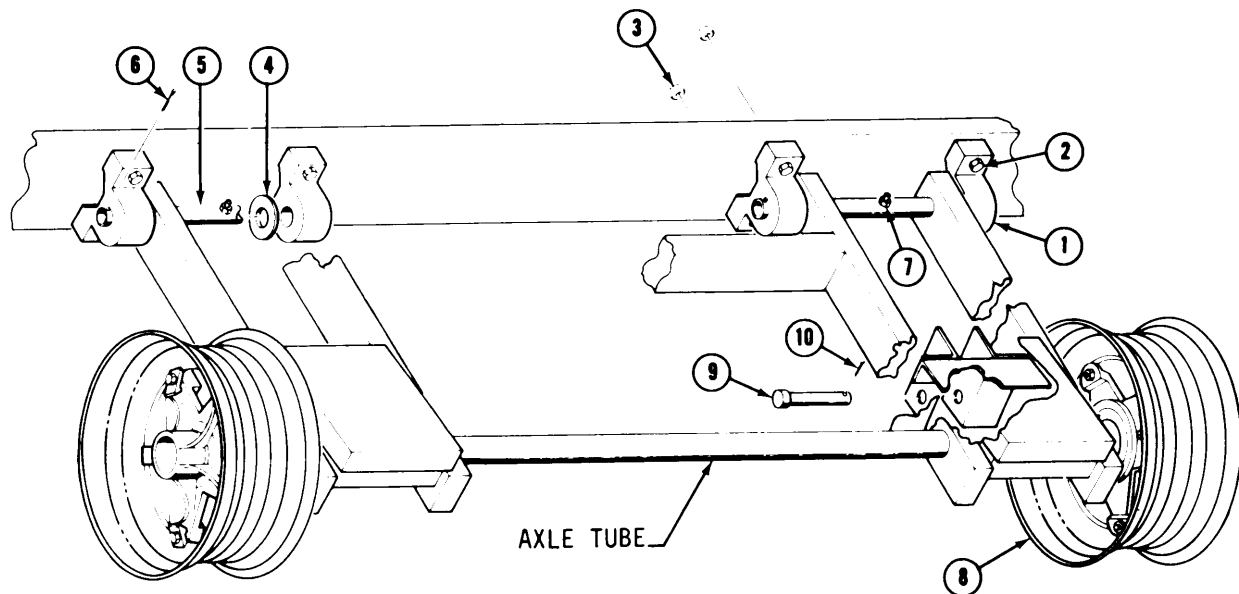

Figure 5-6. Undercarriage Assembly
#### 5.5.5 Undercarriage Assembly (Fig. 5-6)
d. Remove cotter pins (10) from lower clevis pins (9) holding hydraulic lift cylinders (Fig. 5-6).
e. Slide clevis pins (9) out.
f. Place a 3/4 inch box wrench over locknuts (3).
g. Place a 3/4 inch socket and ratchet over mounting bolts (2).
h. Loosen and remove locknuts (3) and bolts (2).
i. Swing hydraulic lift cylinders (1, Fig. 5-13) clear of the undercarriage assembly (Fig. 5-6) and pull the undercarriage from underneath the ramp.
j. Loosen and remove grease fittings (7, Fig. 5-6) from pivot tube.
k. Remove cotter pins (6) from pivot pins (5).
l. Remove mounting blocks (1) from the ends of pivot pins (5).
m. Slide pivot pins (5) from pivot tubes and remove spacer washers (4).
b. Insert pivot pins (5, Fig. 5-6) through pivot tubes placing spacer washers (4) over the ends of pivot pins.
c. Slide mounting blocks (1) over the ends of pivot pins (5).
d. Insert cotter pins (6) through the holes in the ends of pivot pins (5). Secure cotter pins.
f. Align the holes in mounting blocks (1) with the holes in ramp frame.
g. Insert bolts (2) through the holes.
k. Slide lower clevis pins (9, Fig. 5-6) through cylinder rod mounting brackets (3, Fig. 5-13) and cylinder rod.
l. Insert cotter pins (10, Fig. 5-6) through the holes in the ends of clevis pins (9). Secure cotter pins.